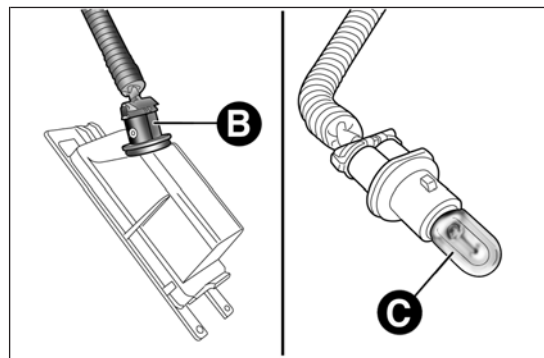

fig. 149
- turn the bulb holder B fig. 149 anticlockwise, extract the bulb C and replace it;